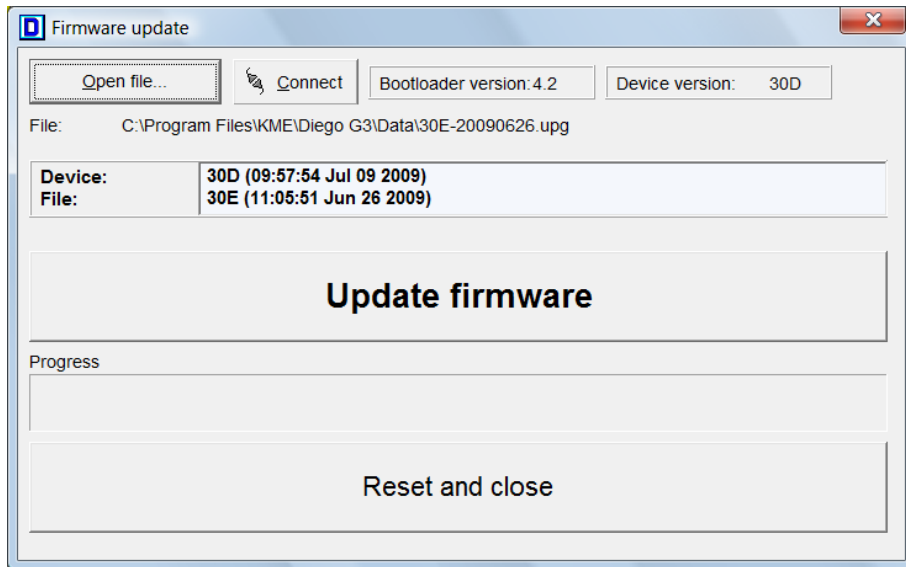

Figure 3.5: Firmware update window after opening file
- Press “open file” button, choose file upg to be loaded into a controller. After choosing file version and compilation date of firmware in file appears (30E, see figure 3.5).